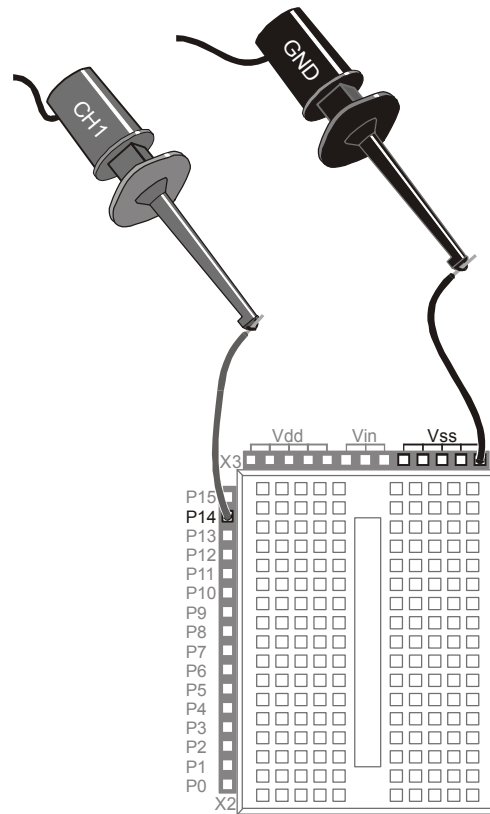

Figure 6-3:
- √ Build the circuit as shown in Figure 6-2 and Figure 6-3